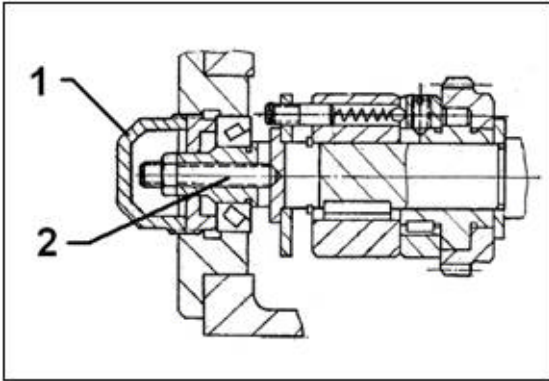

Fig 20
To adjust the feed overload clutch, remove the cover (1, Fig 20) and adjust screw (2).